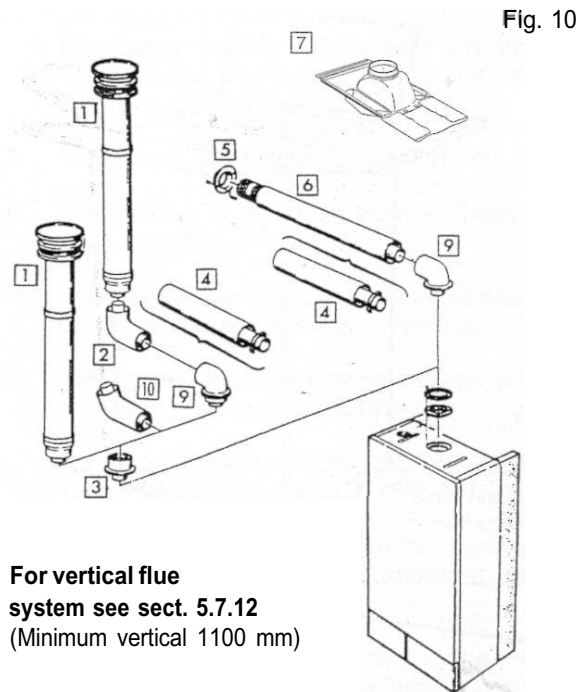

Fig. 12
**Flue box containing (Fig. 12):**
- d) terminal cover plate (Fig. 12 item 127)
- h) header gasket (Fig. 12 item 56)